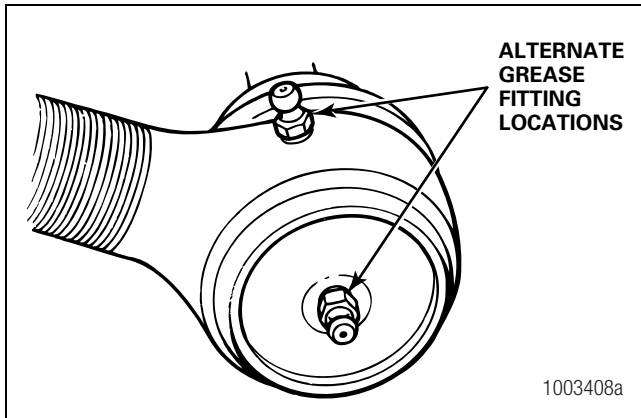

Figure 10.14
- If the tie rod ends are non-greaseable:** Do not install a grease fitting if the tie rod end is the non-greaseable type. Figure 10.14.